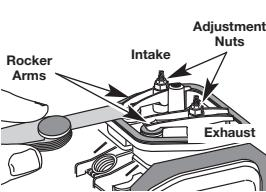

Fig. 46
7. Slide the feeler gauge between the rocker arm and the valve return spring. Measure the clearance between the valve stem and rocker arm (Fig. 46). Measure both the intake and exhaust valves.
The recommended clearance for both intake and exhaust is **.003 – .006 in. (.076 – .152 mm)**. Use a standard automotive .005 in. (0.127 mm) feeler gauge. The feeler gauge should slide between the rocker arm and valve stem with a slight amount of resistance, without binding. See Figures 46 and 47.